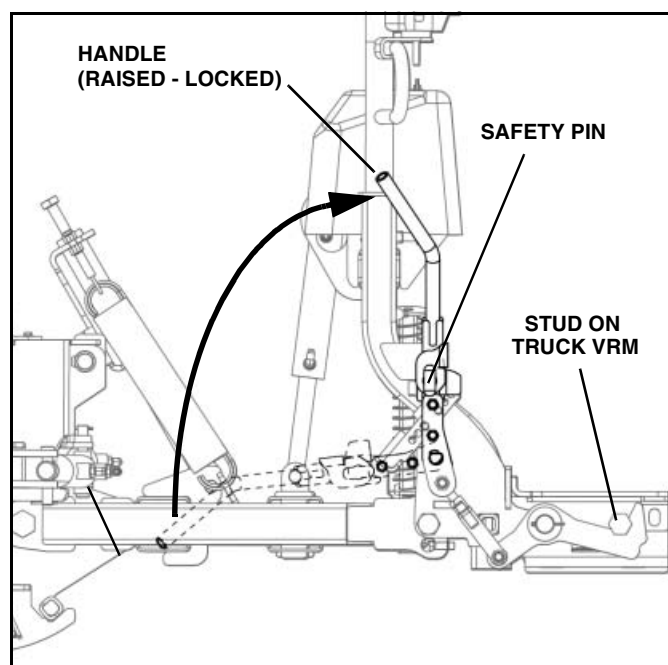

Figure 1-29
29. Pull up engagement handle to engage plow onto stud on VRM, ensuring that the safety pin is fully engaged. (See Figure 1-29).